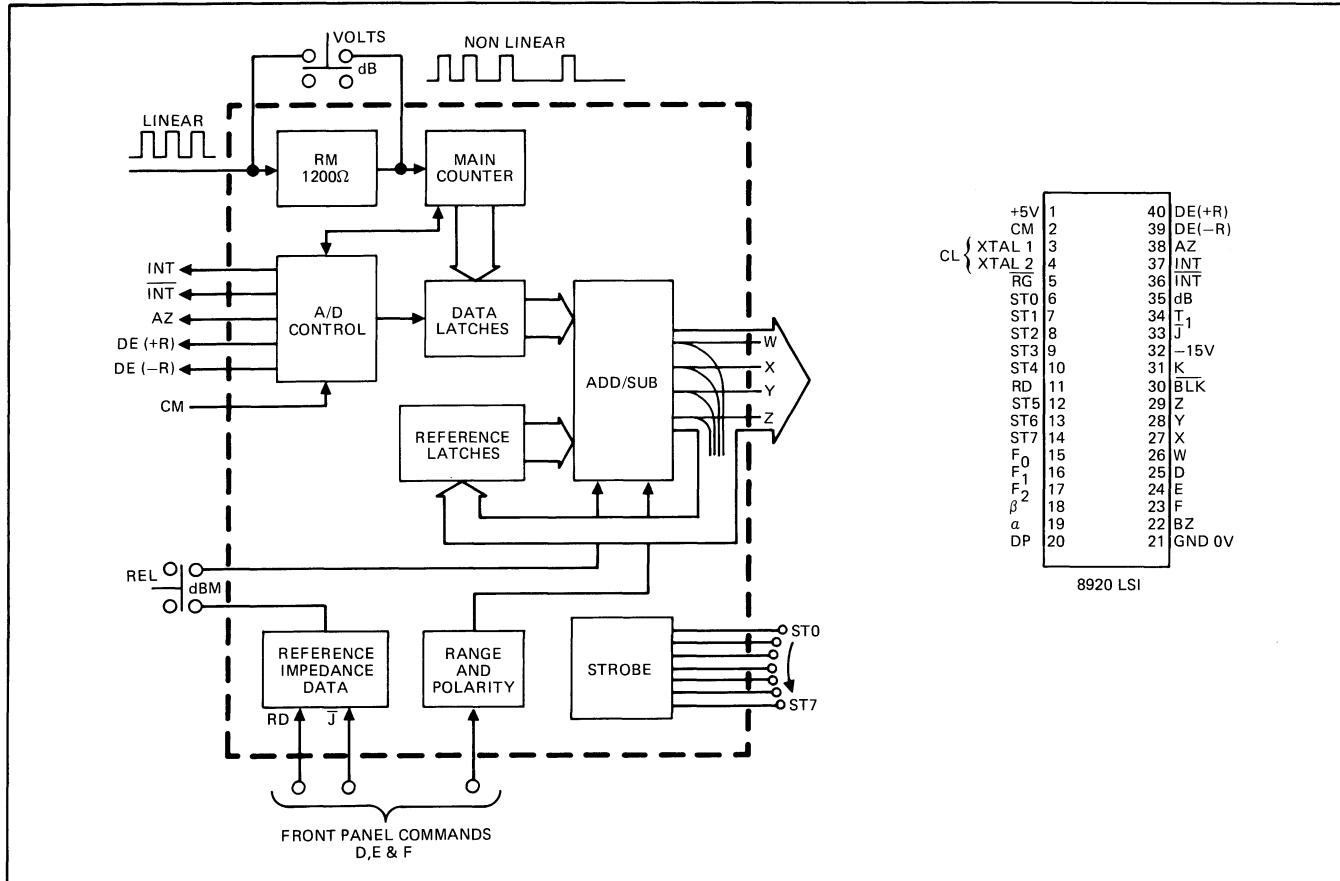

Figure 3-7. Controller Functions
Display and Announciators will be described immediately after this section on the Controller. A summarized description of each input and output pin used on the Controller is give in Table 3-2 and shown in Figure 3-7.
3-32. To make a voltage measurement the Controller must linearly count clock pulses for a time determined by the A/D Converter. Referring to Figure 3-7, you can see that when the dB/VOLTS switch is placed in its up (out) position the rate multiplier (RM) will be shunted and the main counter will count the number of clock pulses exactly as they occur (linear). As soon as the integrator in the A/D Converter reaches the auto-zero point, CM will go high, commanding the main counter to stop counting and simultaneously shifting its count to the data latches. What is now held in the data latches is a count of clock pulses, in bcd format, that is proportional to the true rms value of the signal being measured. The bcd data is then shifted out of the controller, to a seven-segment decoder on four lines: W, X, Y and Z.
3-34. If the dB/VOLTS switch is in the dB position, a non-linear count of the clock pulses is enabled. The binary rate multiplier (RM) passes only a fraction of the clock pulses on to the Controller's main counter (see the illustrated input to the main counter on Figure 3-7). This count approximates the logarithmic curve of the dB scale and, like the VOLTS mode, is stored in the data latches.
3-38. Referring to Figure 3-7, let's assume that a 600 ohm reference impedance is selected and the instrument had previously made a relative measurement. Strobe zero
3-41. Referring the Figure 3-7. you can see that upon selection of the REL mode, the reference impedance data line will be disabled. However, to make a relative reference measurement the controller must use an initial reading, and to obtain an initial reading it must use a